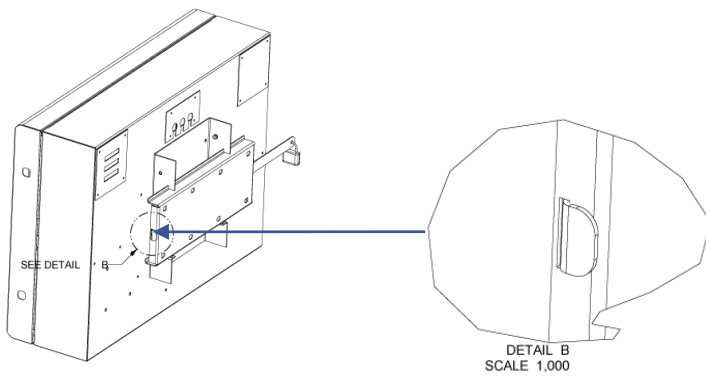

Figure15
STEP 24: To fully secure the unit to the wall and prevent issues of theft, take the locking bar and feed it through the slots on the mounting brackets and plate (Figure15)
STEP 25: Attach a padlock (Not Supplied) and secure once the locking bar has been securely fitted, power up the unit (Figure15).